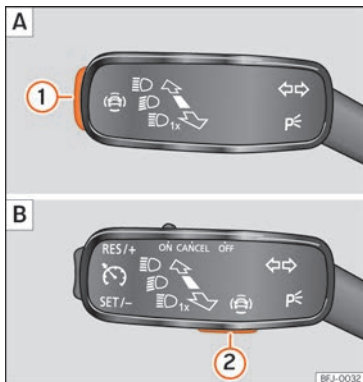

Fig. 115 On the turn light and main beam lever: key for driver assistance systems (depending on the version).
- Press »» Fig. 115 ① or ② briefly to open the **Driving aids** menu.